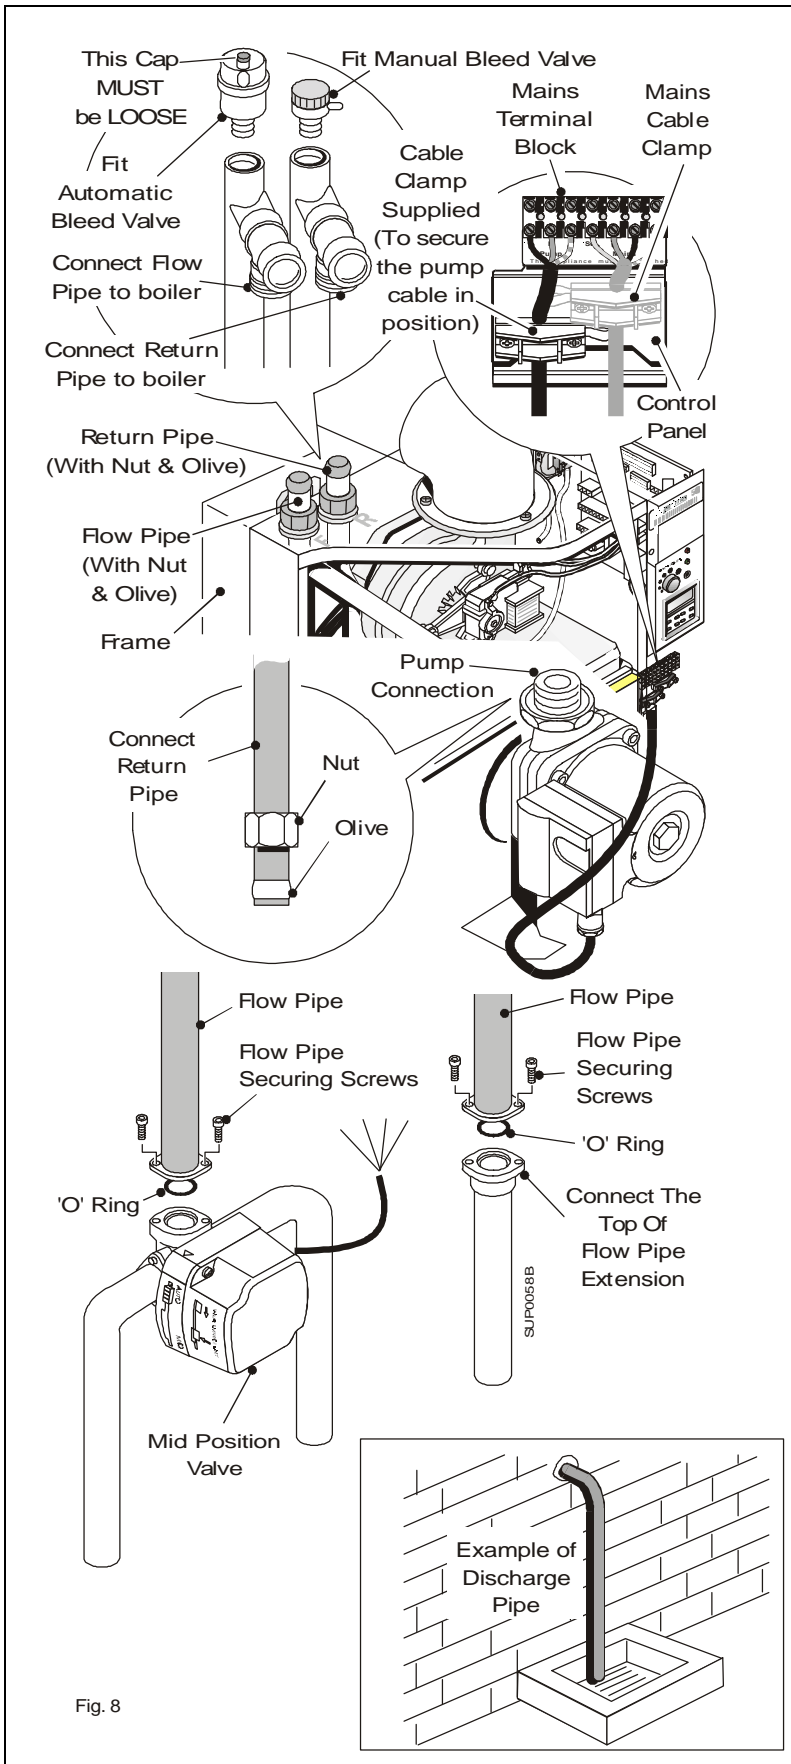

Fig. 8
2. Tighten both connections and fit the Automatic Bleed Valve (from the system module) to the screwed connection. See Fig.8.
4. Tighten both connections and fit the Manual Bleed Valve (from system module) to the screwed connection. See Fig.8.